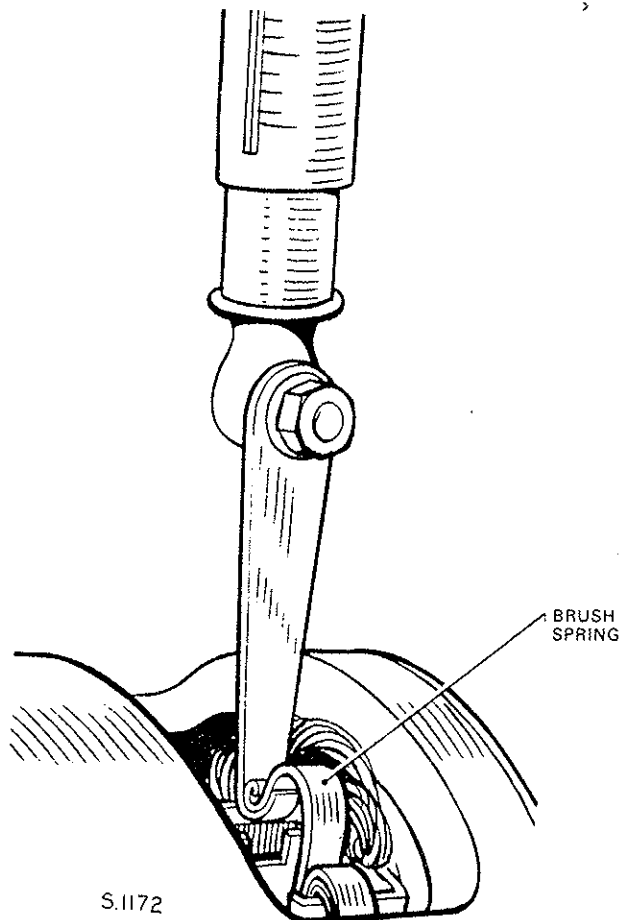

Fig. N.24. Checking brush spring tension
3. Check the tension of the brush springs with a spring scale (see Fig. N.24). The correct tension is 15 to 20 oz. (0.43 to 0.71 kg.) or 30 to 34 oz. (850-